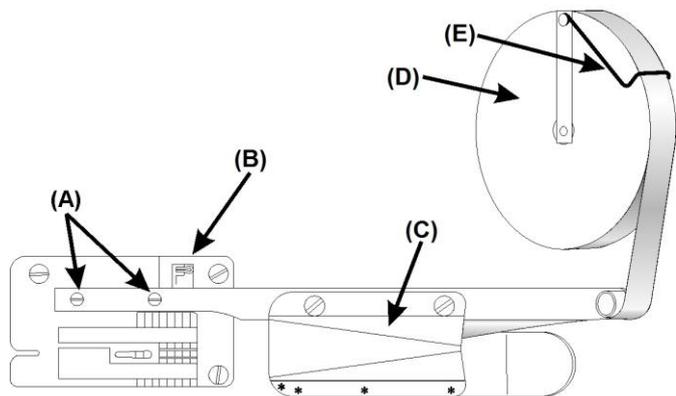

Fig: 9B
2. Remove the reel of tape (**Fig: 9B**) and lift the presser foot using the lifter lever (11654) (**Fig:3, page 15**).
3. Loosen the two screws holding the folder to the throat plate (**A**) and remove the folder. (**Fig: 9B**)